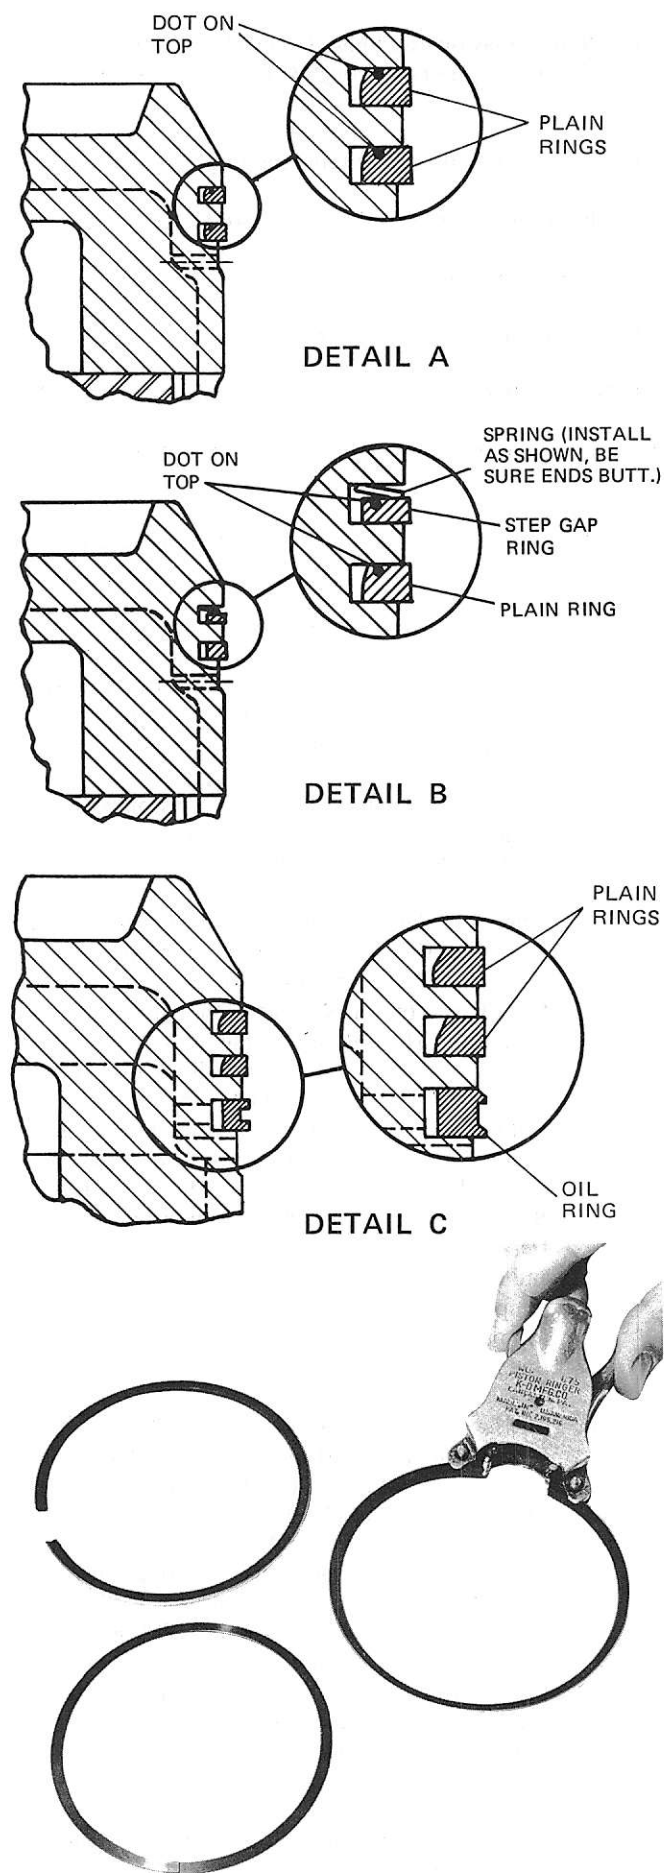

FIG. 35 — INSTALLING PISTON RINGS
- A. The very earliest design Style A compressors used a piston with 2 identical piston rings. (See Fig. 35, Detail A.) When replacing rings on this style piston, the rings should be changed to the arrangement described in paragraph B, below.
- B. Later Style A compressors used a piston with 1 plain ring, 1 step gap ring, and 1 retainer ring as shown in Fig. 35, Detail B.
When installing the rings use a ring expander and spread the rings only enough to slide them over the piston. Install the ring in the bottom groove first. This is the thicker of the two rings and has plain ends. The dot on the ring must face toward the top of the piston. Next install the ring in the top groove. This is the ring with the "step gap" and must be installed with the dot on the ring facing the top of the piston. Install the retainer ring in the top groove on top of the piston ring. Be sure the ring is turned as shown in Fig. 35, Detail B. Be sure the ends of the retainer ring butt and do not overlap. This may be checked by attempting to compress the top piston ring. If the top piston ring compresses freely the retainer ring is properly installed.
- C. The latest Style A compressors and all Style B compressors use a piston with 2 plain rings and 1 oil ring. (See Fig. 35, Detail C.) Style A compressors use a cast iron piston; Style B compressors use an aluminum piston. When installing the rings use a ring expander and spread the rings only enough to slide them over the piston. Install the oil ring in the bottom groove first. This is the beveled ring and must be installed as shown in Fig. 35, Detail C. Next, install the rings in the top grooves. Be sure the dot on the rings is toward the top of the piston. Check that all rings compress freely.